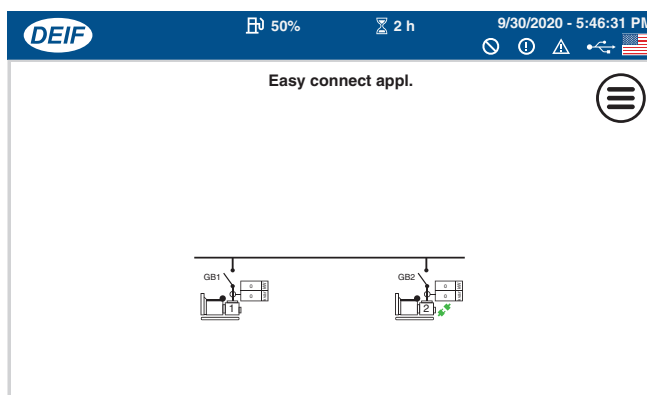

Figure 139. Supervision Screen
29. Verify that the generator layout shown on the **Supervision screen** (Figure 139) identifies **two generators** in the paralleled system.